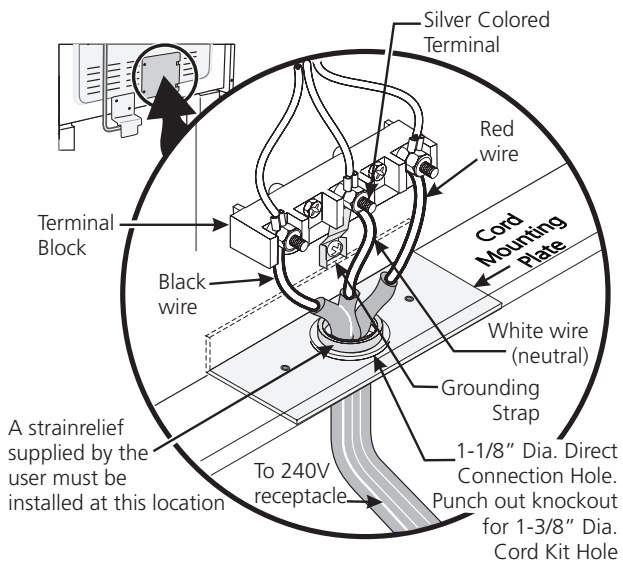

Figure 3
(The 3-conductor cord or cable must be replaced with a 4-conductor cord or cable where grounding through the neutral conductor is prohibited in new installations, mobile homes, recreational vehicles or in other areas where local codes do not permit neutral grounding) If local codes permit connection of the frame grounding conductor to the neutral wire of the power supply cord (see Figure 3):
4. Replace the 3 nuts on the terminal block (see figure 3).